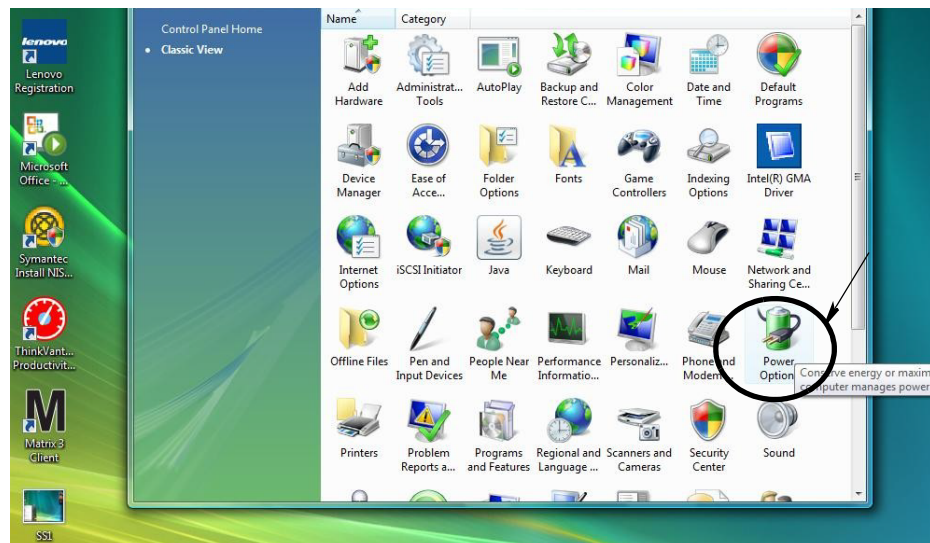

FIG. 50
2. Select the Power Options Icon (FIG. 50).